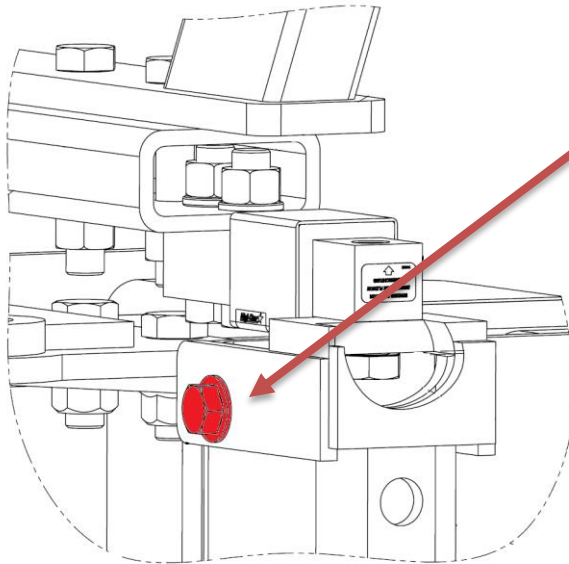

Fig. 6
8. Slowly lower the front leg, adjusting the bracket assembly as required to fit the over the front lower support. It may be necessary to utilize a pry bar to adjust the front leg front to back and side to side for proper fit. Refer to figure 6.